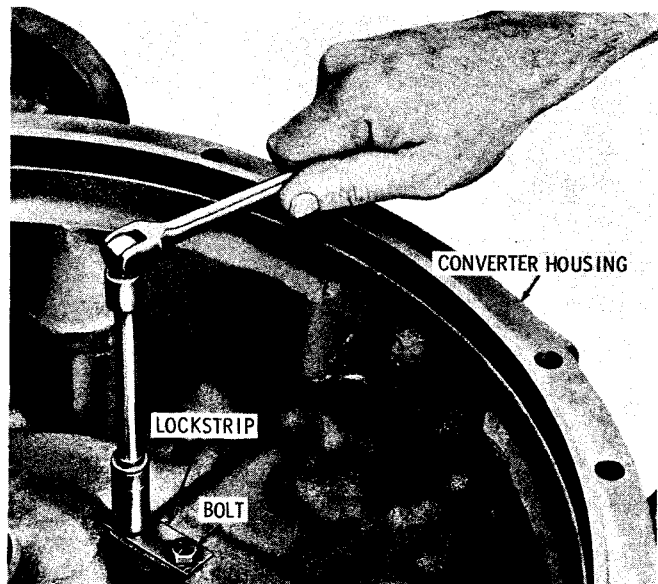

Fig. 5-47. Removing pitot tube bolts (CT, CLT, VCLT) S1592
(1) Flatten the corners of the lockstrip, and remove two bolts that retain the pitot tube assembly (at opposite side of converter housing (fig. 5-47). The pitot tube will drop into the pitot collector ring.